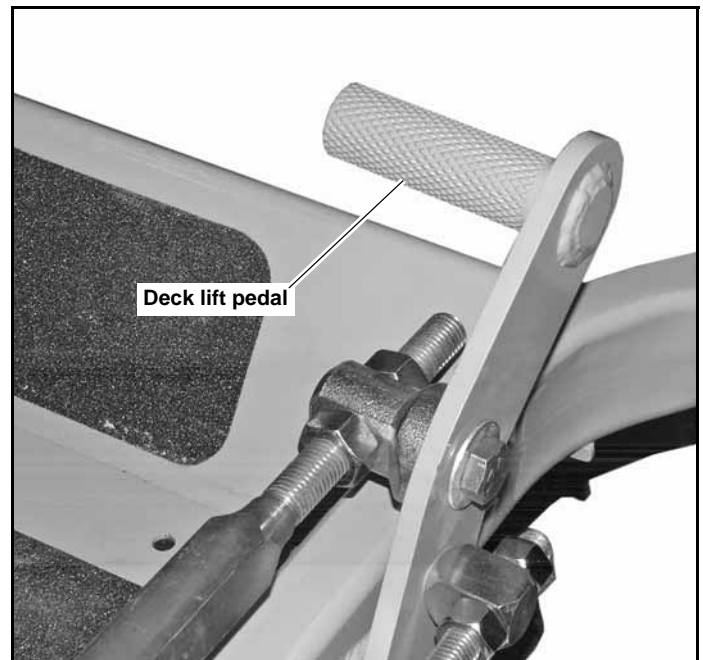

Figure 3-5
- B. **Deck lift pedal (Figure 3-5)** — the deck lift pedal is used to raise or lower the deck. Push on the pedal to raise the deck and then place the deck height locking pin into the desired cutting height hole.